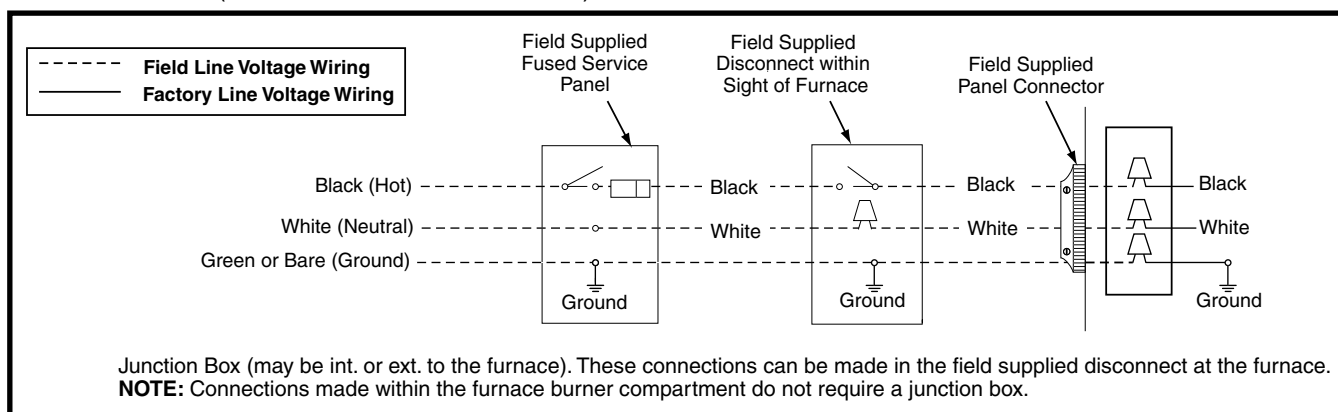

Figure 16. Line Voltage Field Wiring
- An electrical disconnect must be installed readily accessible from and located within sight of the furnace. See Figure 16 or the wiring diagram label inside of the control door. Any other wiring methods must be acceptable to authority having jurisdiction.
- Proper line voltage polarity must be maintained in order for the control system to operate correctly. Verify the incoming neutral line is connected to the white wire and the incoming HOT line is connected to the black wire. The furnace will not operate unless the polarity and ground are properly connected as shown in Figure 16.